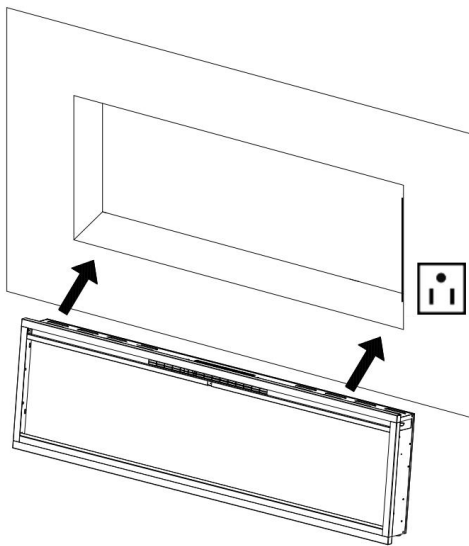

Fig. 2-1
2. Have two adult people to lift up the fireplace and insert it into the rough-in frame and then secure it by installing 2 wood screws (**B**) through the holes (**Fig. 2-1, Fig 2-2**).